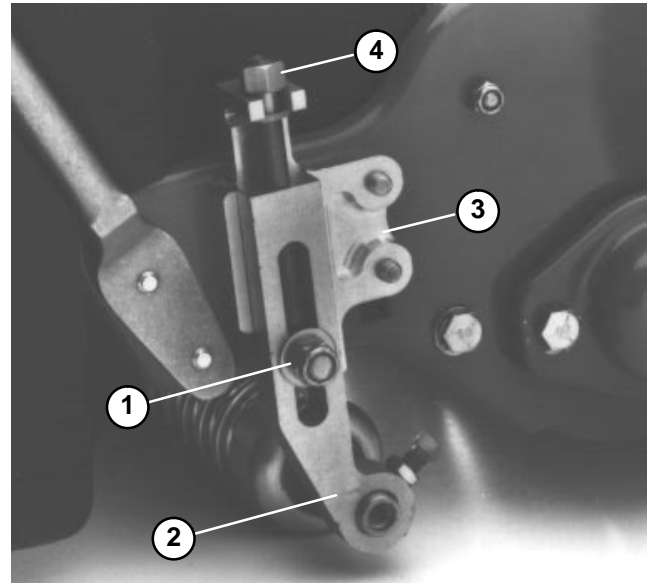

Figure 13
3. Loosen locknuts securing height-of-cut arms to the height-of-cut brackets (Fig. 13).
6. Rotate height-of-cut screw until the roller contacts the front of the gauge bar. Adjust both ends of the roller until the entire roller is parallel to the bedknife (Fig. 13).
7. Tighten both lock nuts to lock the height adjustment (Fig. 13).